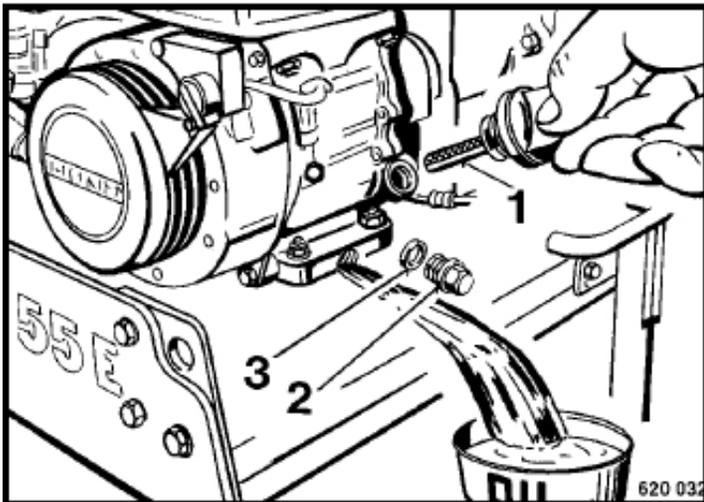

Fig. 35
- | Unscrew the oil filler plug 1 (Fig. 35).
- | Unscrew the oil drain plug (2), tilt the machine back, drain all oil and catch it.
- | Reinstall the oil drain plug with a new seal ring (3).